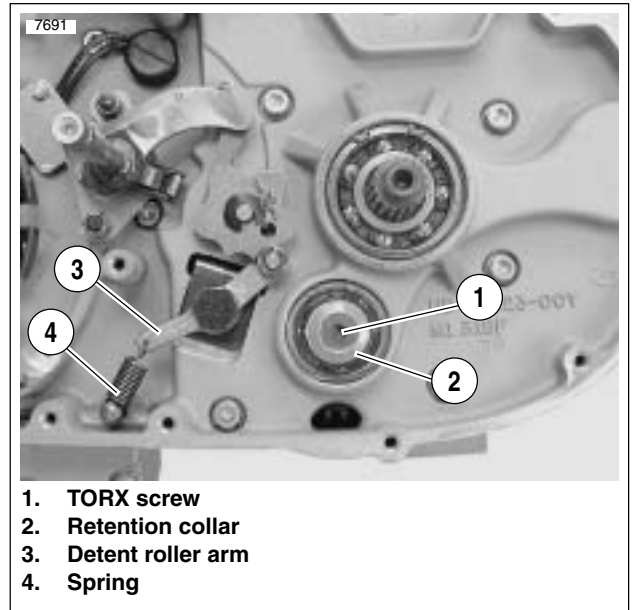

Figure 6-56. Countershaft Retainer
8. See Figure 6-56. Position retention collar next to end of counter shaft with beveled side facing outward.
- b. Insert screw (1) through retention collar (2) and thread into end of shaft.
- c. Place transmission in gear, and tighten T/ORX screw (1) to 13-17 ft-lbs (18-23 Nm).